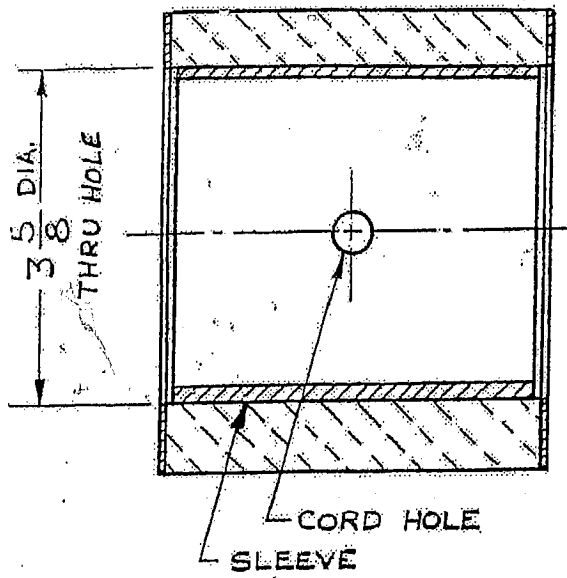

FIG. 1
2. Mark a circle 5-1/6 inches in diameter in the selected location and mark the center. This is to be sure that the louvered flange will fit the selected location. Using the same center, cut a 3-5/8 inch diameter hole through the panel (Figure 1).